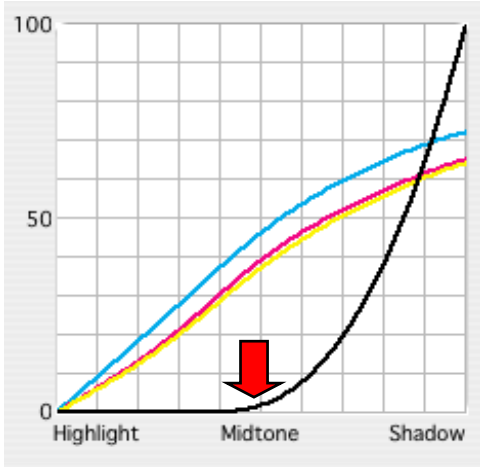

Fig 15a. Black begins in Midtones
- The CMYK graph changes depending on your Black Generation selection. Figures 15a and 15b show the difference between Light and Heavy black